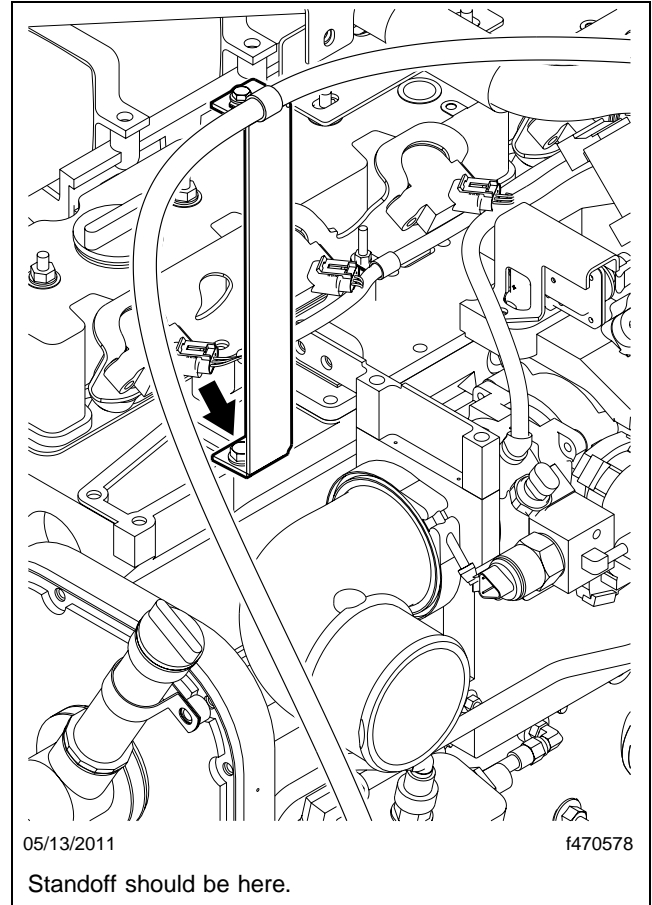

Fig. 12, Standoff Location
11. Verify that the standoff is in the correct location. See **Fig. 12**.